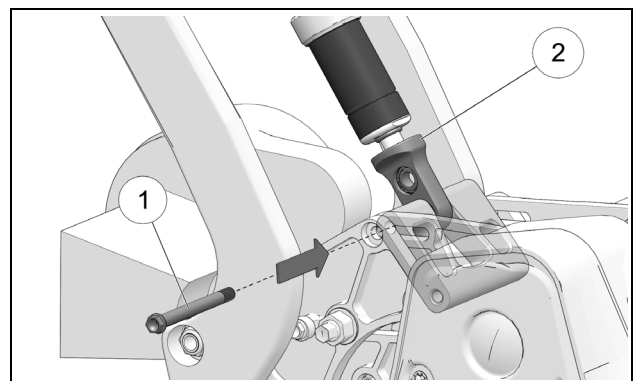

Figure 32
- Re-insert assembly bolt (1) to attach Soft Strut (2) to Bike mount. Do not tighten the bolt completely at this point. See Figure 32.